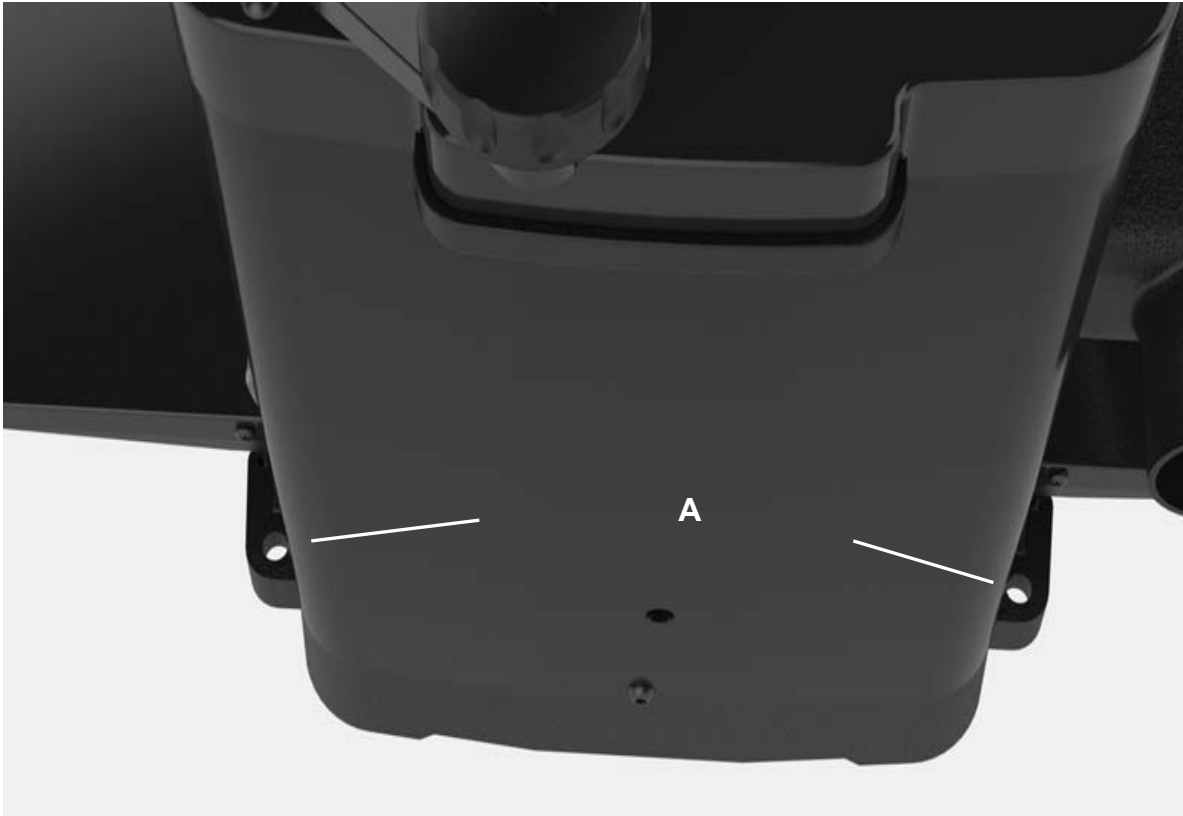

FIG 3
During operation, if there is any tendency for the planer to tip over, slide or walk, the planer **MUST** be secured to a supporting surface such as a workbench or table. Four holes are provided (2 are shown at (A)) to securely mount the planer. The surface you are mounting the planer to should be perfectly flat. SEE FIG 3.